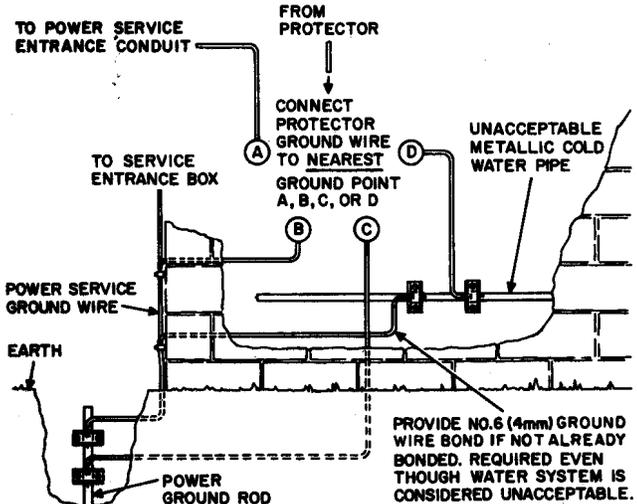
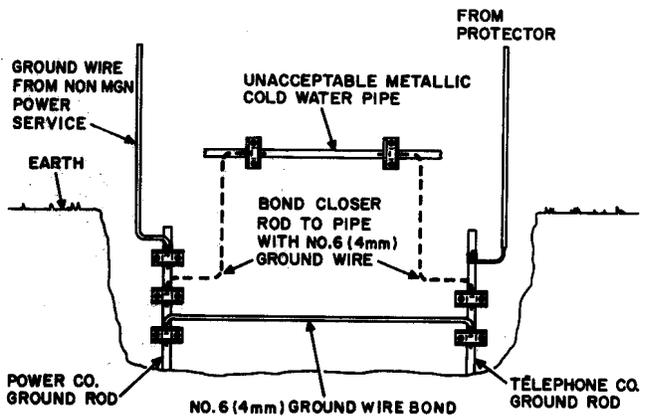

Fig. 48—Unacceptable Water System or Building Ground (Multigrounded Neutral Power System Grounded to Ground Rod)¶
Fig. 49—Unacceptable Water System or Building Ground (Nonmultigrounded Neutral Power System Grounded to Ground Rod)¶
- 6.06** Where the power is grounded to a ground rod and an acceptable water pipe or building ground does not exist, it is necessary to know if the power service is MGN (multigrounded neutral). This information should be obtained according to local instructions. Station protectors installed where an MGN power system is grounded to a ground rod should be grounded as shown in Fig. 48. Where a non-MGN power system is grounded to a ground rod, protectors should be grounded as shown in Fig. 49.